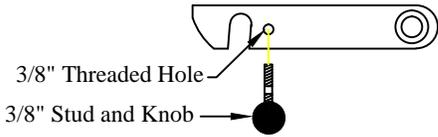

Figure 21: Original Series platform latch knob.
1. **Install** the two (2) knobs on the platform latches (Original Series only) see (Figure 21).